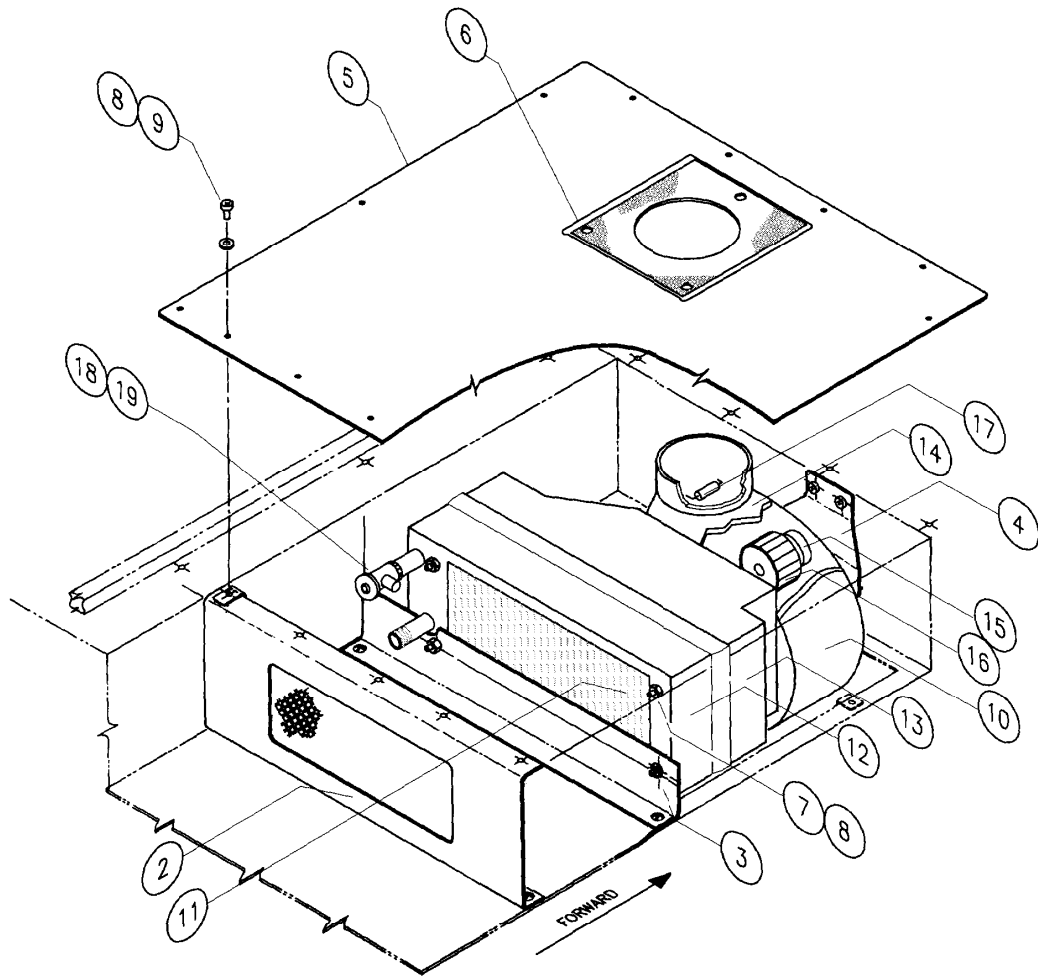

Figure 1. FWD Evaporator Assembly (STD)
3. EVAPORATOR MAINTENANCE PROCEDURES (REF. IPL Fig. 1 & 2)
IPL FIGURE 1